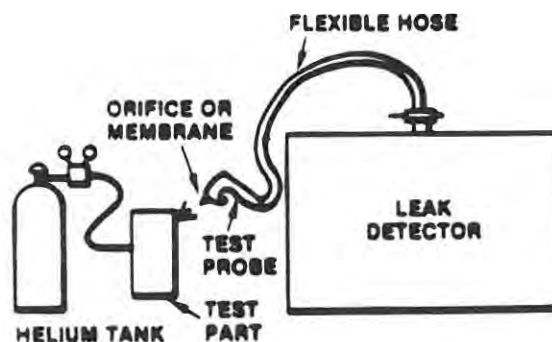

Figure 1-4. Test piece pressurized; detector probe used to locate leak.
### (2) TEST PIECE PRESSURIZED (FIGURE 1-4)